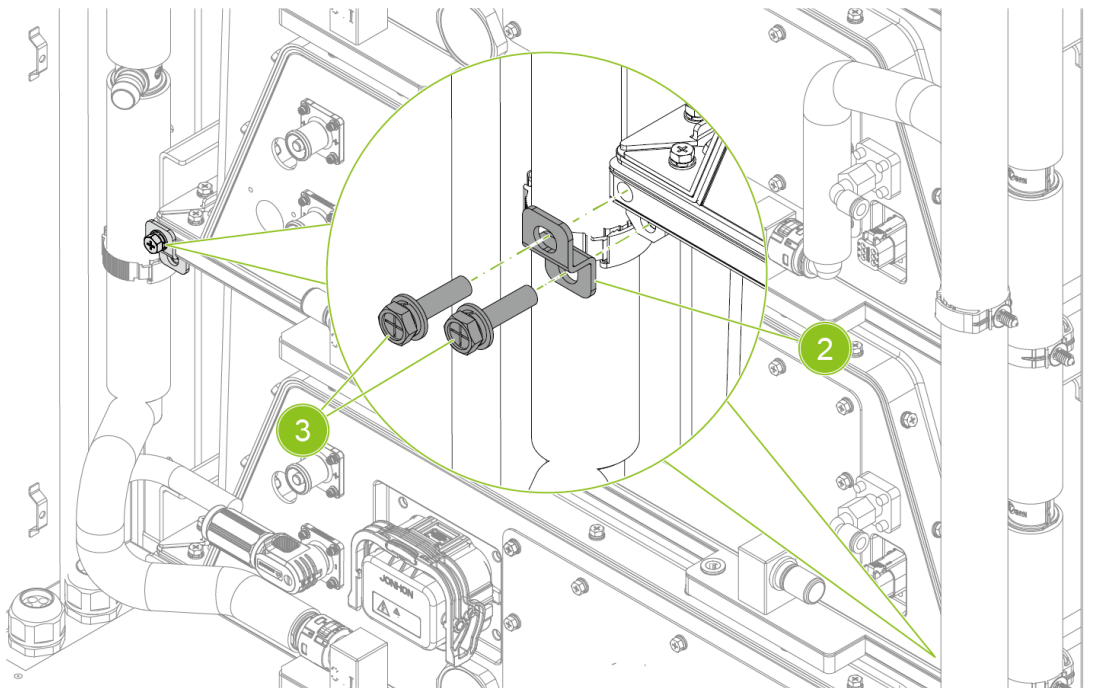

Fig. 9-7 Remove the battery fixing tools
2. Turn left to tighten and close the air exhaust valve on the cooling pipeline, refer to Fig. 9-7 Drain the coolant.